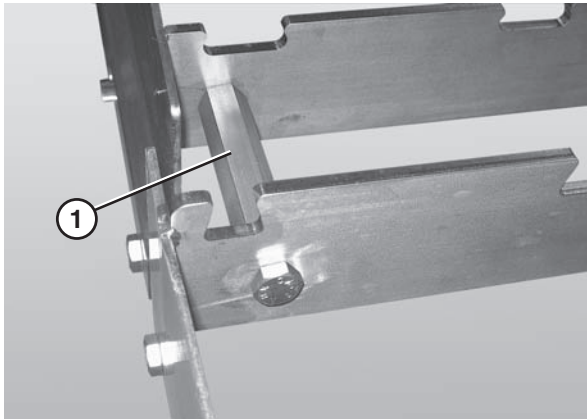

Figure 6
3. Connect the frame sections by bolting the hex post connectors (**Figure 6, item 1**) to the sections of frame.